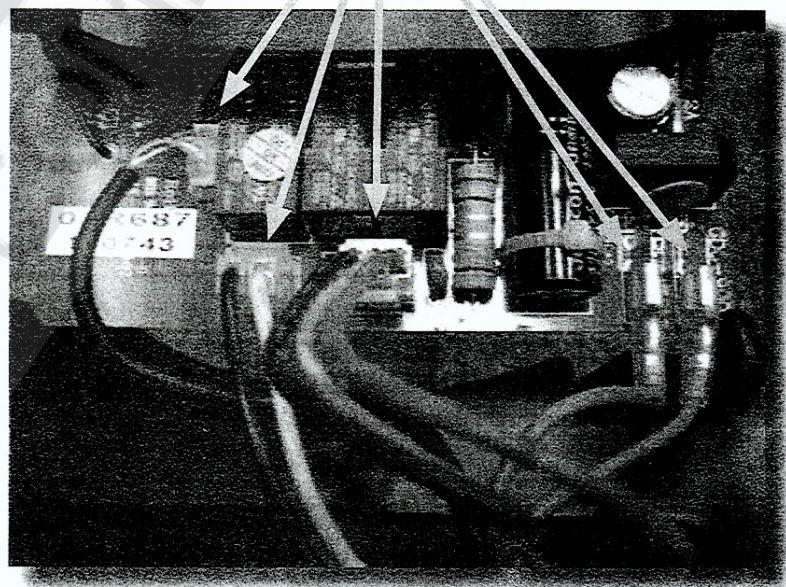

FIG 4
6. Carefully remove FIVE wire connectors from old board. FIG 4\*.
7. Install these wires onto new Control Board. The two individual RED wires may be connected to either terminal. The remaining connectors will only assemble one way. Insure that each connector is properly aligned to the Control Board Pins. FIG 4\*.